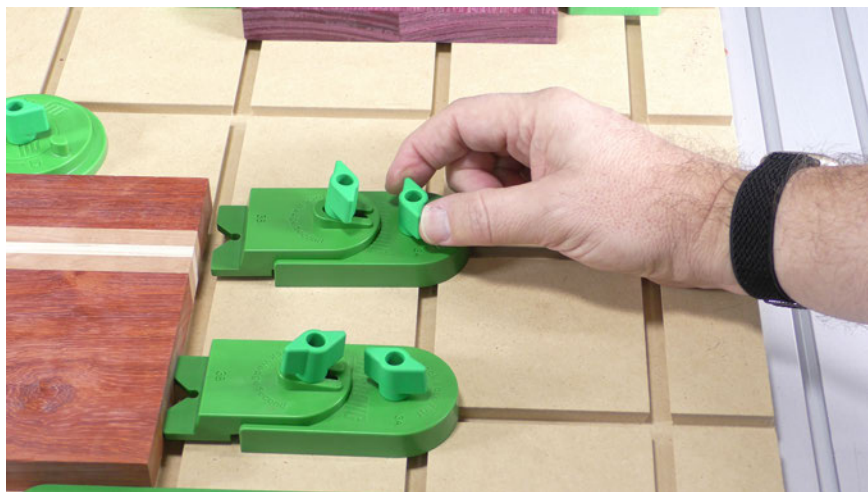

Fig 6a - Ramp Clamp Use
- 6.4. Lock the Ramp Clamp in place on the bed by tightening the wing knob on base 3A. (Fig 6a)